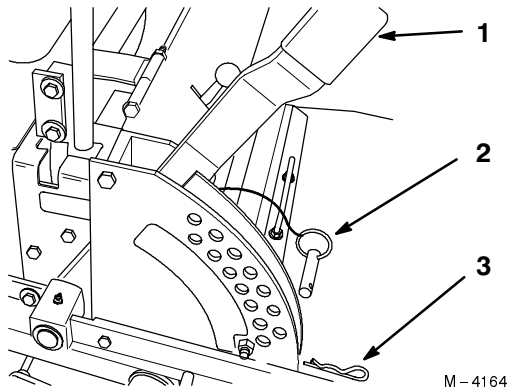

Figure 11
1. Raise the height-of-cut lever to the transport position (also the 5-1/2" (140 mm) cutting height position) (Fig. 11).
2. To adjust, remove hairpin cotter and clevis pin from height-of-cut bracket (Fig. 11).
3. Select hole in height-of-cut bracket corresponding to the height of cut desired, and insert clevis pin (Fig. 11).
4. Secure clevis pin with hairpin cotter (Fig. 11).